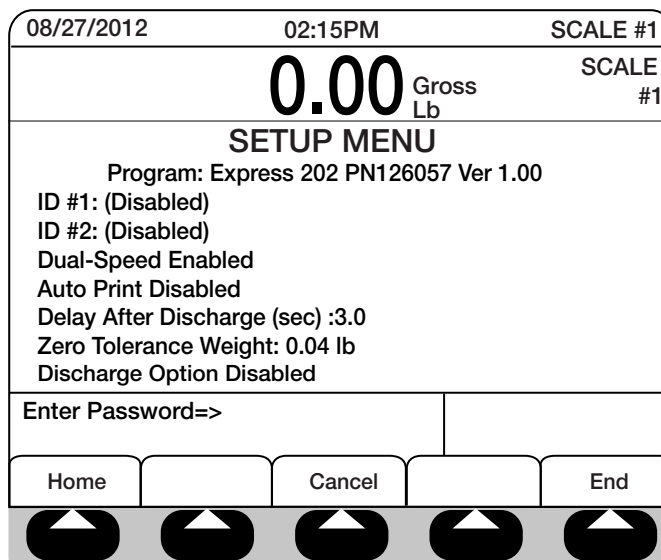

Figure 3-4. Setup Menu Enter Password
1. From the main setup menu screen, press **Setup Password** (Figure 3-4 on page 13). The system prompts, *Enter New Password*.